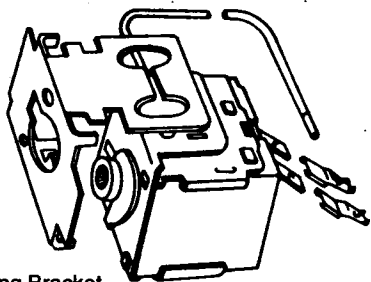

Figure 3
2. Place the universal bracket over the replacement control as shown in Figure 3.